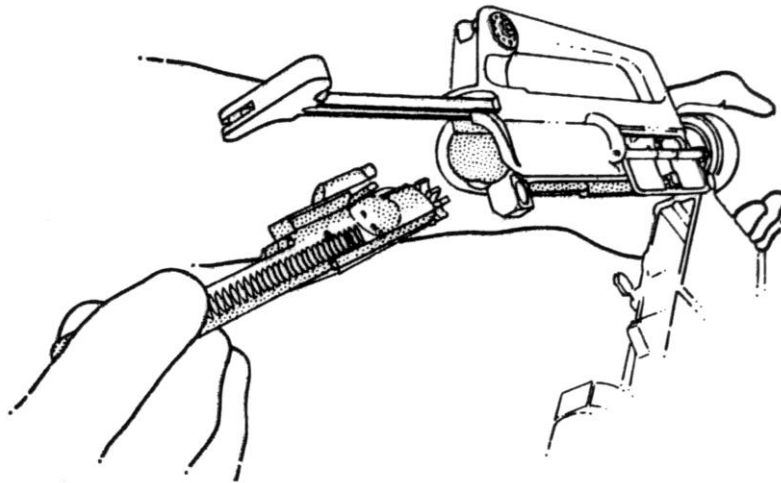

Figure 5
1. Pull *charging handle* to rear and remove *bolt carrier assembly* by pulling it to the rear. See Figure 5.